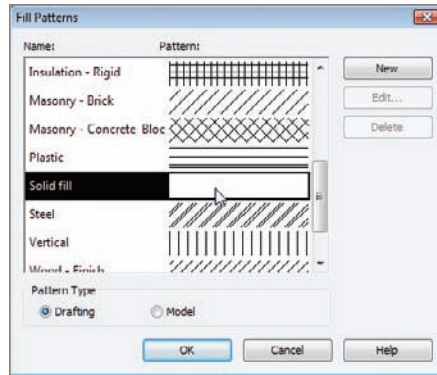

FIGURE 12.25 Select the Solid Fill pattern and click OK.
7. Notice that you can select any hatch pattern you wish. Make sure Solid Fill is selected, as shown in Figure 12.25, and click OK.